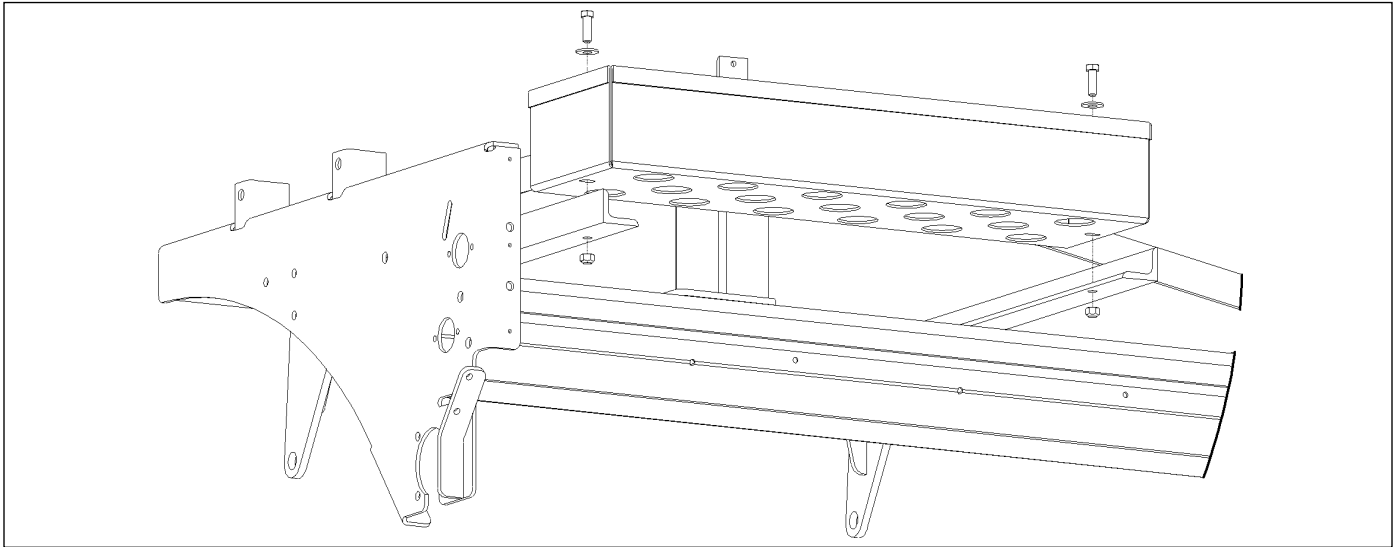

Figure 3-11: Rock Box
- Attach Rock Box to Frame angles just in front of the Seedbox with 1/2-13 x 1-1/2 capscrews, flat washers and lock nuts. See Figure 3-11.